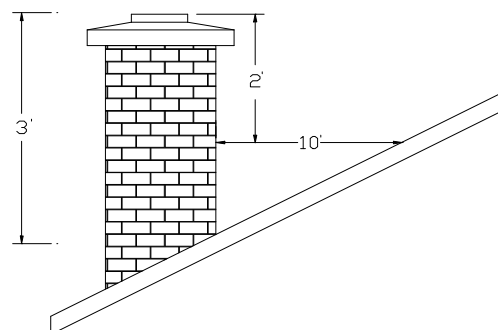

Fig. 12 Minimum Chimney Height
- A chimney must be the required height above the roof or other obstruction for safety and for proper draft operation. The requirement is that the chimney must be at least 3 feet higher than the highest point where it passes through the roof and at least 2 feet higher than the highest part of the roof or structure that is within 10 feet of the chimney, measured horizontally (Fig. 12).
The chimney must be the required height above the roof or other obstruction for safety and for proper draft operation. The requirement is that the chimney must be at least 3 feet higher than the highest point where it passes through the roof and at least 2 feet higher than the highest part of the roof or structure that is within 10 feet of the chimney, measured horizontally (Fig. 12).